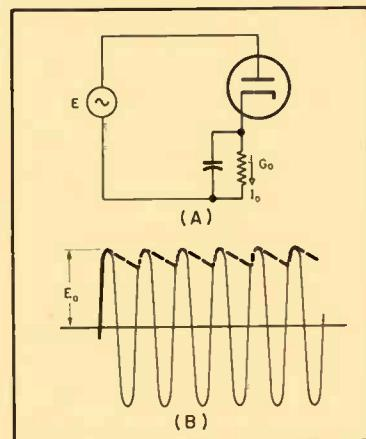
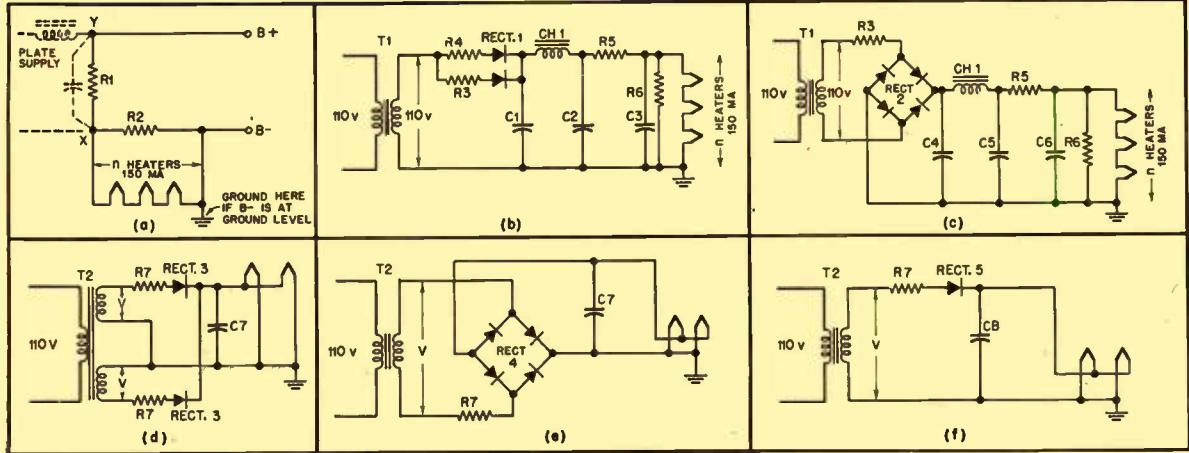

Fig. 2. (A) Simplified diode detector circuit and (B), the resultant current through load resistor when rectifying an unmodulated carrier signal.
Fig. 1. Typical circuits for supply of direct current for heaters of low-level amplifier stages.
In the operation of the simplest diode rectifier current, an ideal diode is assumed and the signal is unmodulated with an input current impedance of zero. In a circuit such as shown at (A) of Fig. 2, the diode current has alternating components of fundamental and harmonic frequencies which are bypassed by the load capacitor, and a rectified component,  $I_o$ , which flows through a load conductance  $G_o$  placed across the capacitor. The rectified load voltage  $E_o$  is free of alternating components since they are bypassed. In operation, each positive peak of the input voltage charges the capacitor to a voltage  $E_o$  equal to the carrier peak voltage. During each negative half cycle, a small part of this charge leaks off through  $G_o$ , but is restored at the next positive peak of input voltage, resulting in a waveform as shown in Fig. 2. The diode current
Basic circuits for d.c. heater supply are shown in Fig. 1. The plate-supply connection is diagrammed at (A). With a string of  $n$  12-volt heaters (150 ma) the voltage drop from  $X$  to  $B^-$  will be  $12.6n$ , and the resistors  $R_1$  and  $R_2$  are selected to provide this condition. If the normal plate current drain is less than 150 ma,  $R_2 = 0$ , and  $R_1$  is adjusted to give the 150-ma current through the heater string. If the normal plate current is over 150 ma,  $R_1$  is adjusted to draw a few ma (as a safety bleeder across the plate supply filter) and  $R_2$  is adjusted to by-pass the excess current. Adjustment in either case may be made with a milliammeter in the heater loop or with a voltmeter between  $X$  and  $B^-$ . The available plate-supply voltage between  $X$  and  $B^-$  will be the supply voltage across  $X$  less the drop between  $X$  and  $B^-$  in the heater loop.
Figure 1 (B) is the wiring diagram of a separate heater-supply unit shown in Fig. 2, built by the author as a stand-by and bench unit. A 110/110-volt isolation transformer supplies a half-wave selenium rectifier followed by a capacitor-input filter, a load-adjusting resistor, and a safety bleeder. The unit will supply one to six 12-volt, 150-ma heaters—the load-adjusting resistor being set to the